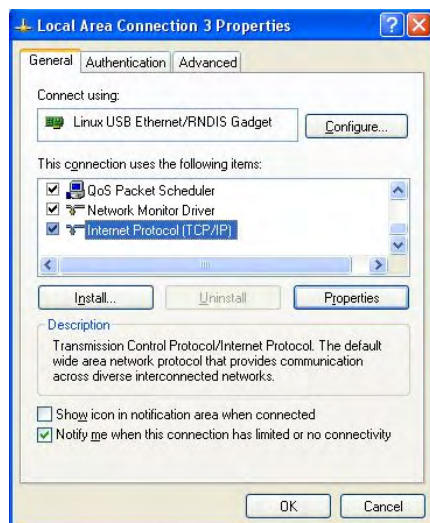

FIG. 35 Local Area Connection 3 Properties
4. In the Local Area Connection 3 Properties window (FIG. 35) under the **General** tab, select *Internet Protocol (TCP/IP)* and click on **Properties**.